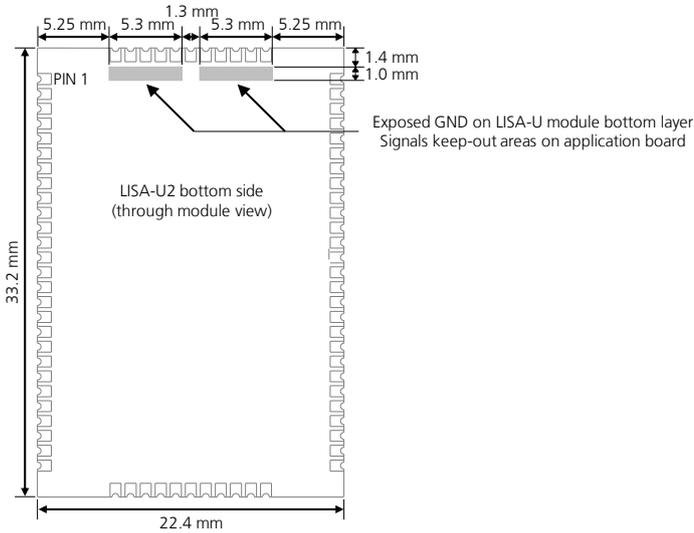

Figure 62: Signals keep-out areas on the top layer of the application board, below LISA-U2 series modules
The bottom layer of LISA-U2 series modules has two unprotected copper areas for GND, shown in Figure 62.
-  Consider “No-routing” areas for the LISA-U2 modules footprint as follows: signal keep-out area on the top layer of the application board, below LISA-U2 modules, due to GND opening on module bottom layer (see Figure 62).